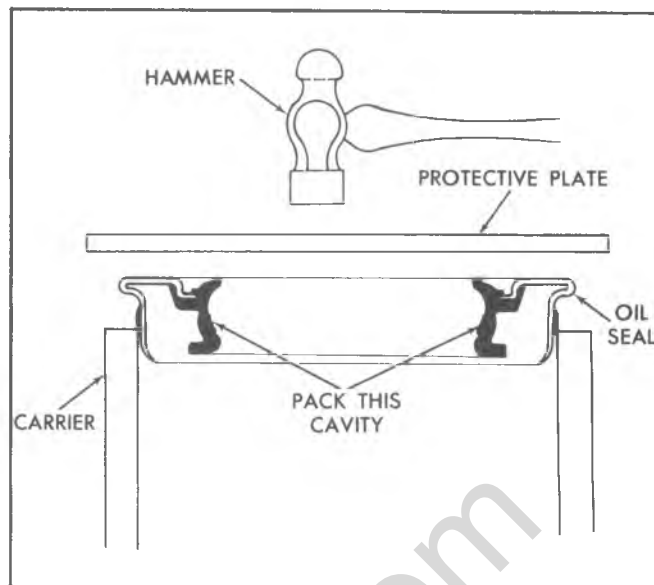

Fig. 22A—Installing Pinion Oil Seal
- Place a new pinion oil seal into position in carrier bore. Tap lightly with a protective plate and a hammer until seal flange seats against carrier, as shown in figure 22A.